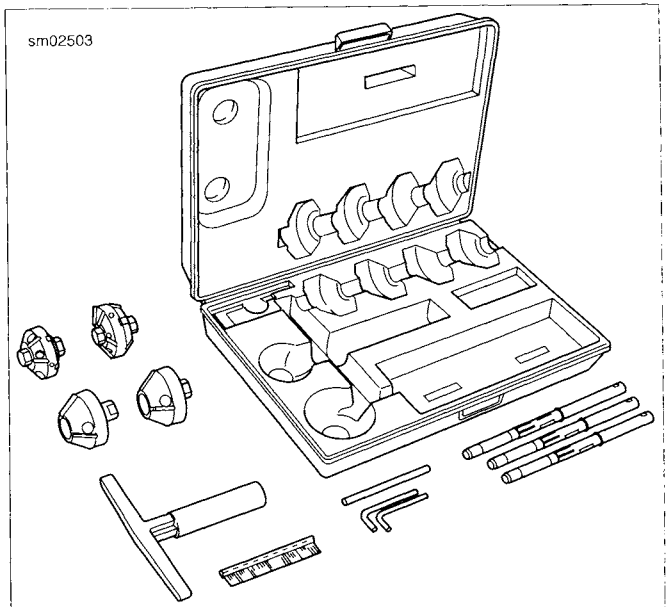

Figure 3-107. Neway Valve Seat Cutter Set
9. See Figure 3-107. Obtain the NEWAY VALVE SEAT CUTTER SET (Part No. HD-35758-C). Choose the cutter pilot that fits properly into the valve guide hole. Securely seat the pilot by pushing down and turning using the installation tool supplied in the tool set.